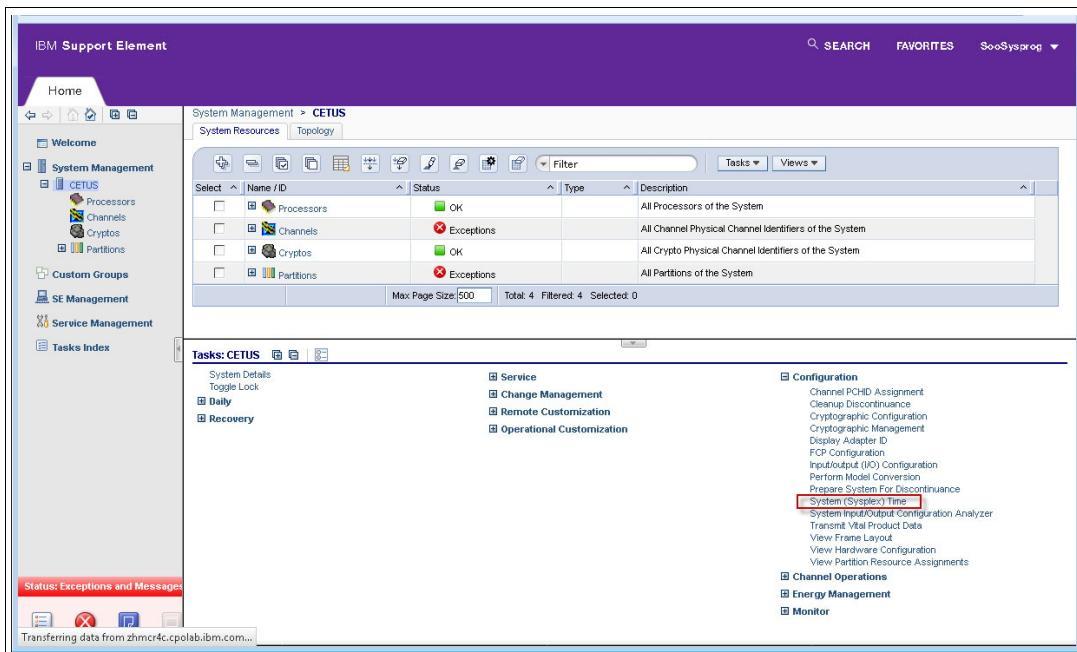

Figure 5-38 Single Object Operations: System (Sysplex) Time
8. Click **System (Sysplex) Time** (Figure 5-38).